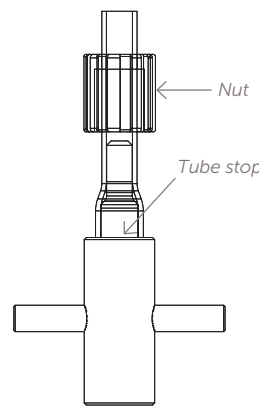

Figure 2.
- Remove the PFA tubing from the heat source. **Immediately** push the flaring mandrel into the tubing until the end of the tubing reaches the tube stop (Figure 2). Refer to [www.entegris.com](http://www.entegris.com) for available mandrel configurations.